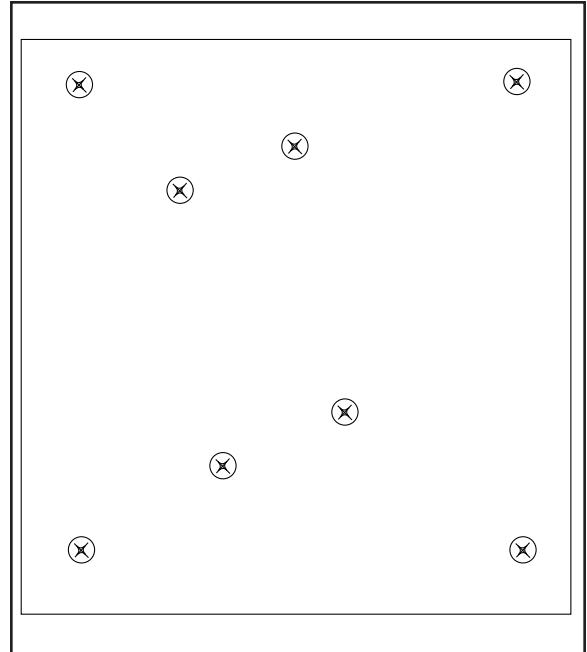

FIGURE F.10 - Control Board Mounting Screw Locations may vary with different Code Machines.
4. Remove the eight Phillips Head mounting screws using a Phillips Head screwdriver. See Figure F.10.